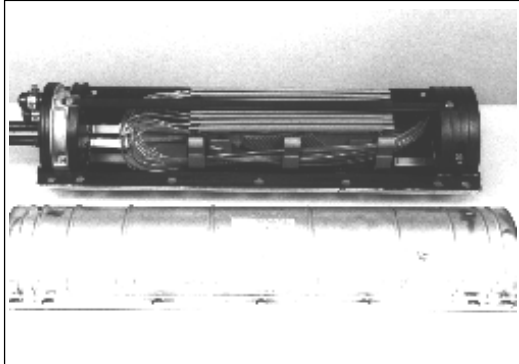

FIGURE 34 - APPLYING BACK SHELL
18.04 Now that all LOCKBAR System preparatory steps have been accomplished, apply the back shell half (without air flange) over End Plates. (Figure 34)
NOTE: Positioning tabs have been added to each LOCKBAR Fastener (front and back). These tabs should always point away from the Splice Case and will help assure proper alignment and eliminate the chance of a bar being misapplied. (Figure 34)